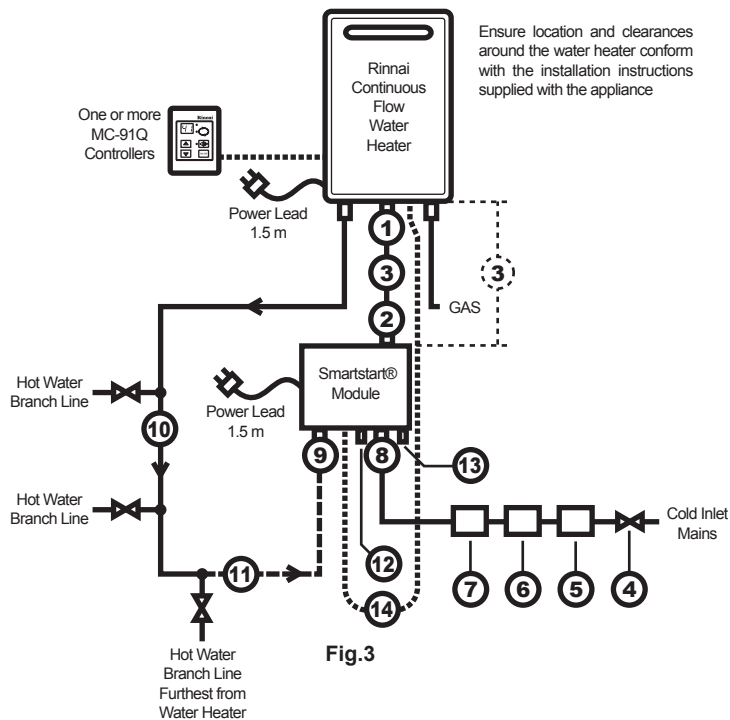

Fig. 3
### LOCATION (Fig. 3)
**LEGEND TO FIG. 3**
Positions and sizes of the connection points to the water heater and pipework are shown in Fig. 3 and the Dimensional drawings.
**VALVES (Fig. 3)**
**PIPEWORK (Fig.3)**
**MOUNTING THE SMARTSTART® MODULE (Fig. 3)**
2. Mount the Smartstart® module so the top edge of the enclosure is approximately 300 mm below the Rinnai REU water heater with the water outlet connection of the Smartstart® module in line with the water inlet connection of the REU water heater as shown in Fig. 3.
6. Open the Smartstart® module Pump and Cold Water inlet bleed valves items ⑫ & ⑬ of Fig. 3 (actual position of 'bleed valves' is shown on dimensional drawing) until all air pockets are released and a steady stream of water is discharged.